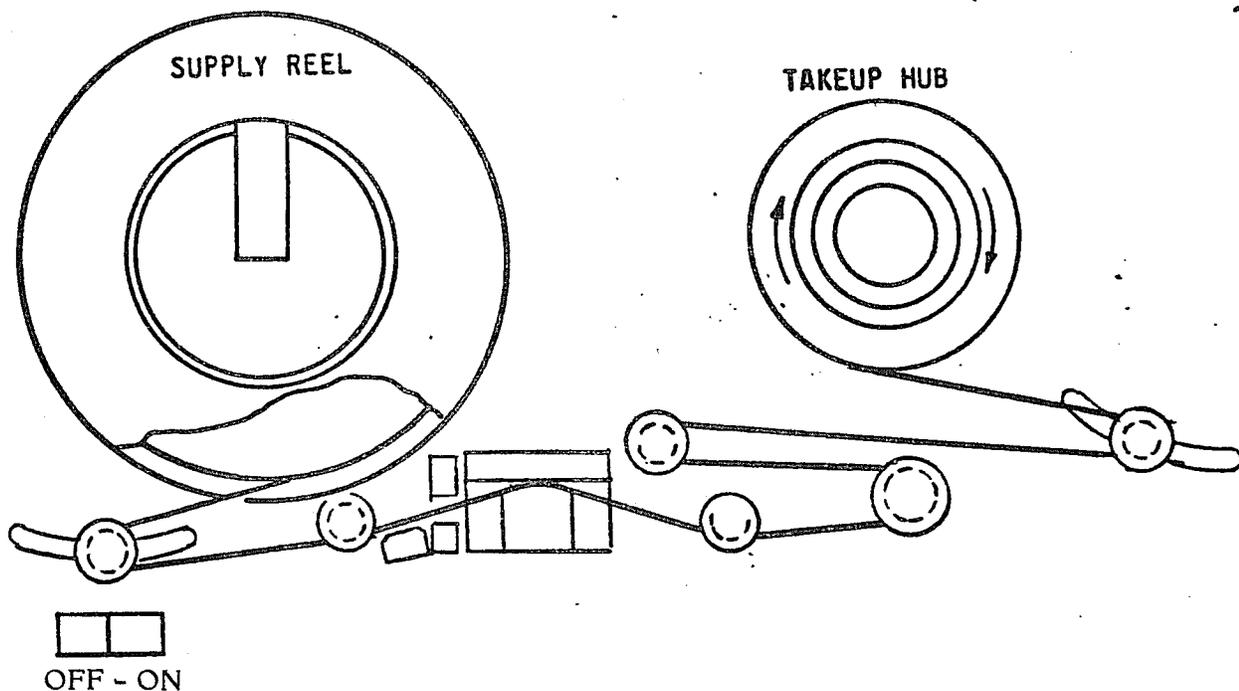

FIGURE 1
9.4 Thread tape onto take-up reel as shown in diagram inside the dust cover on tape transport or as shown in Figure 1.